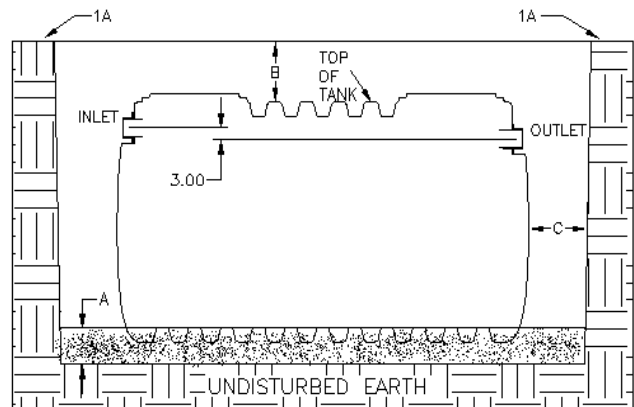

Figure 1: Excavation
1. Excavation (Figure 1)
- c. Excavate and provide a well-compacted support layer of sand / gravel mixture so that dim. (A) is min. of 6" for soil terrain and 12" for rock terrain.
- d. Allow dim. (B) to be a min. of 8" and a max. of 36".